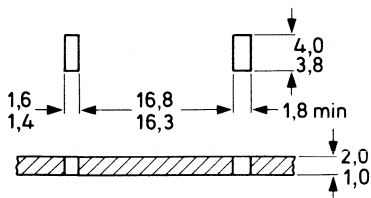

Fig. 3 Heatsink requirements.
2. Push the short end of the clip into the narrow slot in the heatsink with the clip at an angle of 10° to 30° to the vertical (see Figs 3 and 4).